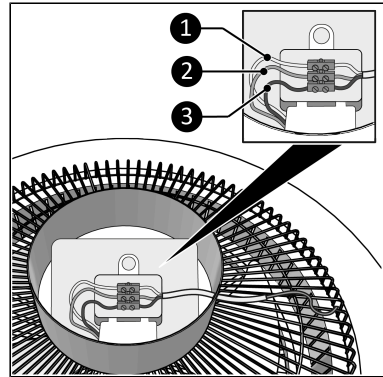

Figure 27.
- Brown wire: live (Figure 27, pos. 3);
- Yellow green wire: earth (Figure 27, pos. 2);
- Blue wire: neutral (Figure 27, pos. 1).